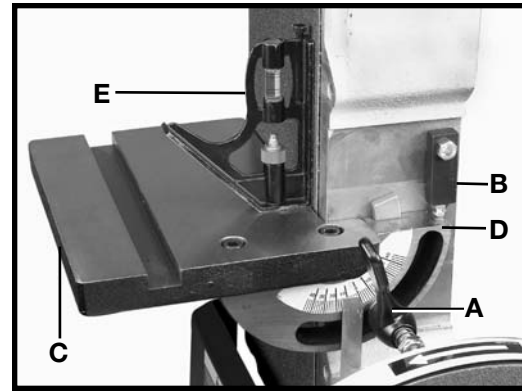

Fig. 21
2. Loosen the table tilting lock handle (A) Fig. 21, move the stop (B) into position, and rotate the table (C) until the trunnion (D) contacts the stop (B). Tighten the lock handle (A). **NOTE:** The lock handle (A) is spring-loaded and can be repositioned by pulling out the handle, moving it, and letting it spring back into position.
3. Place a square (E) Fig. 21 on the table against the belt. See if the table is 90 degrees to the belt.